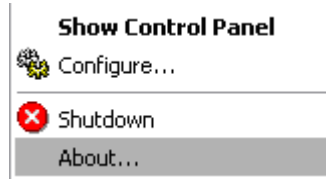

Figure 45 - Tool Tray Menu
2. The **Tool Tray Menu** appears (Figure 45).